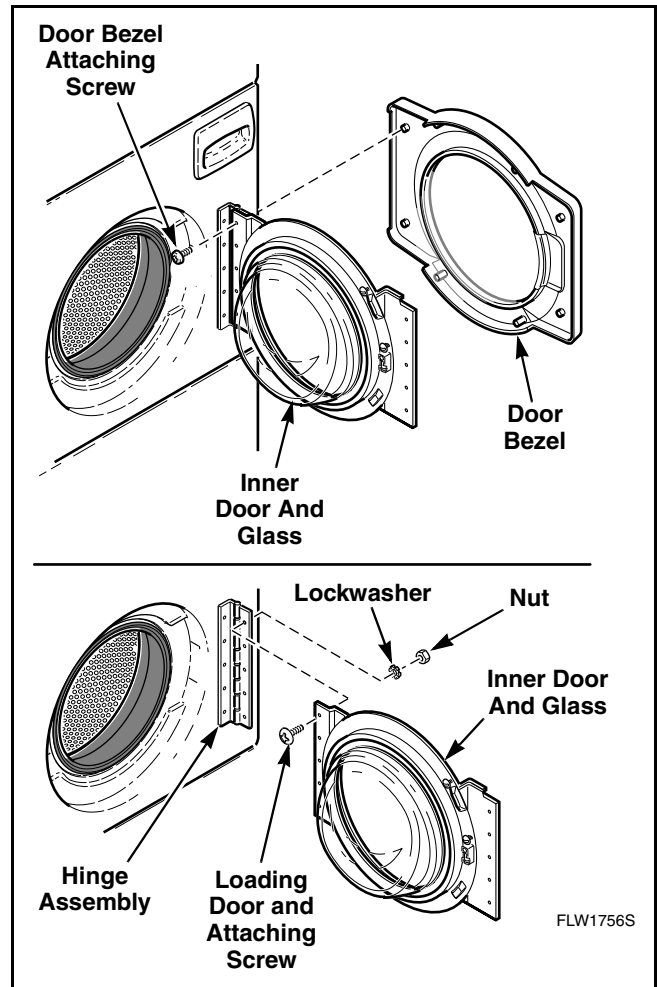

Figure 59
- Remove door bezel to gain access to nuts. Refer to *Figure 59*.
- The loading door can be adjusted up or down somewhat by loosening screws holding door to hinge, then raise or lower door before retightening screws. Refer to *Figure 59*.